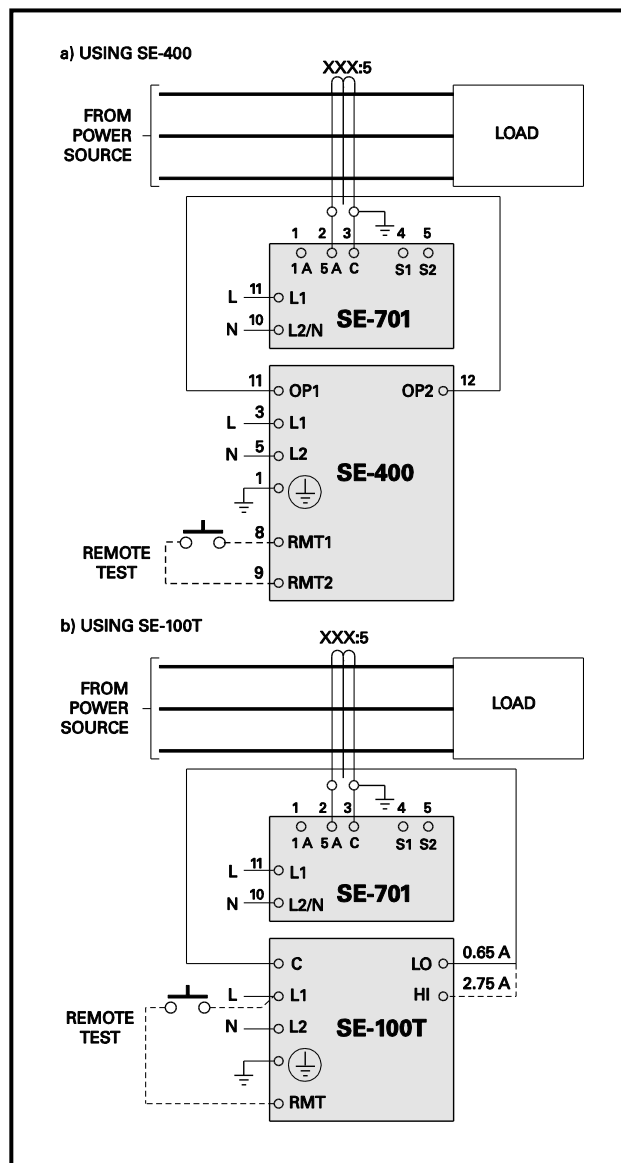

FIGURE 11. Ground-Fault-Test Circuits.
- Verify proper reaction of the circuit-interrupting device in response to a simulated or controlled ground-fault current. To simulate ground-fault current, use CT-primary current injection. Fig. 11 (a) shows a test circuit using an SE-400 Ground-Fault-Relay Test Unit. The SE-400 has a programmable output of 0.5 to 9.9 A for a duration of 0.1 to 9.9 seconds. Set the test current to 120% of the SE-701 setting. Fig. 11 (b) shows a test circuit using an SE-100T Ground-Fault-Relay Tester. The SE-100T provides a test current of 0.65 or 2.75 A for testing 0.5-and 2.0-A trip levels. Inject the test current through the current-sensor window for at least 2.5 seconds. Verify that the circuit under test has reacted properly. Correct any problems and re-test until the proper reaction is verified.